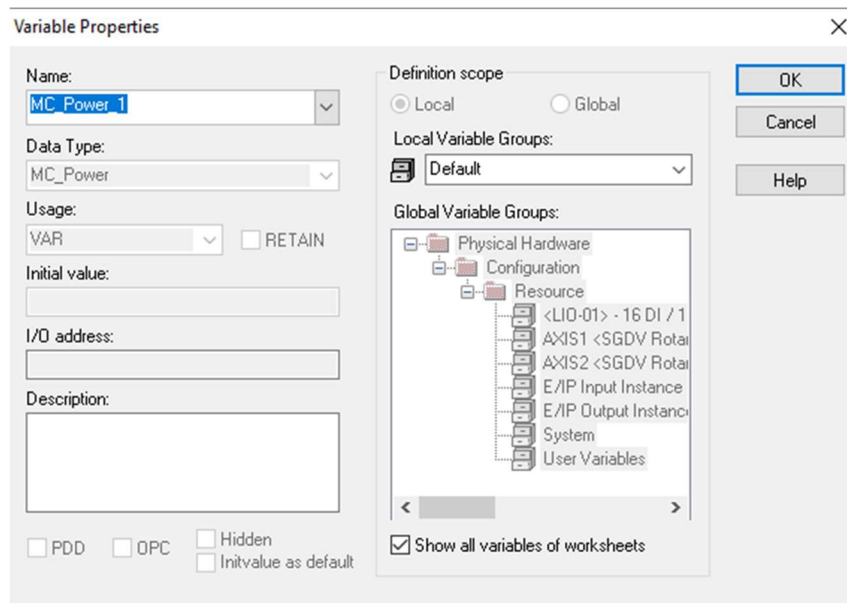

Figure 3: Variable Properties
- The window in Figure 3 should pop up but we can ignore it and just hit OK.